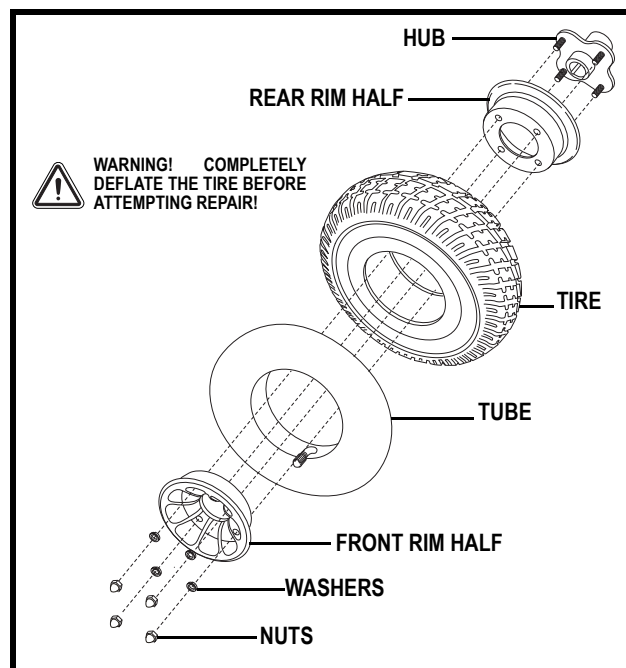

Figure 27. Drive Wheel Assembly
6. Remove the nuts and washers and separate the rim halves. **See figure 27.**